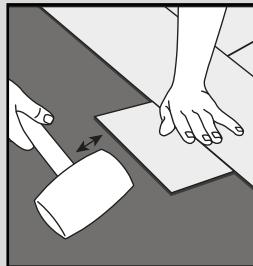

Fig. 4
5. Continue to fit planks across the room until the row is complete. Where necessary, use a rubber mallet and an off-cut of the product or a hand roller to securely fix the planks together (Fig. 4 & 5). A pull bar can be used to pull the product together around the edges of the room (Fig. 6).